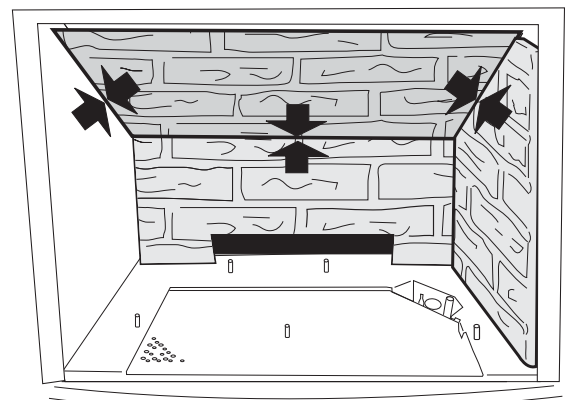

Figure 51. Install Upper Rear Panel
- 6. Install the Upper Rear Panel.** Simply rest it on the other two panels. Fig. 51.